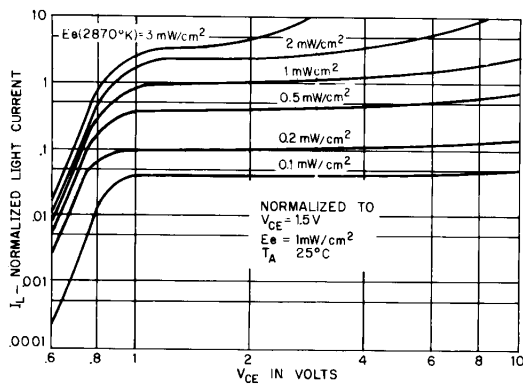
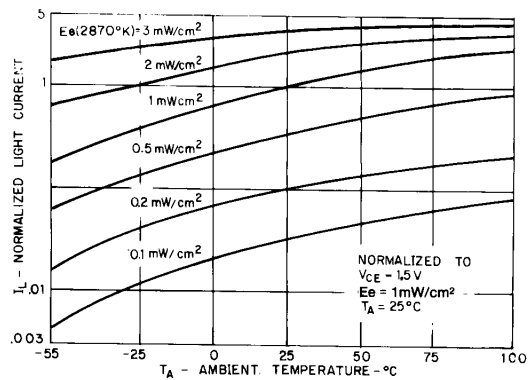

Fig. 1. Light Current vs. Collector-Emitter Voltage ST1118-11
Fig. 2. Light Current vs. Ambient Temperature ST1123-11
- Figure 1 and figure 2 use light source of tungsten lamp at  $2870^\circ\text{K}$  color temperature. A GaAs source of  $3.0\text{ mW/cm}^2$  is approximately equivalent to a tungsten source, at  $2870^\circ\text{K}$ , of  $10\text{ mW/cm}^2$ .